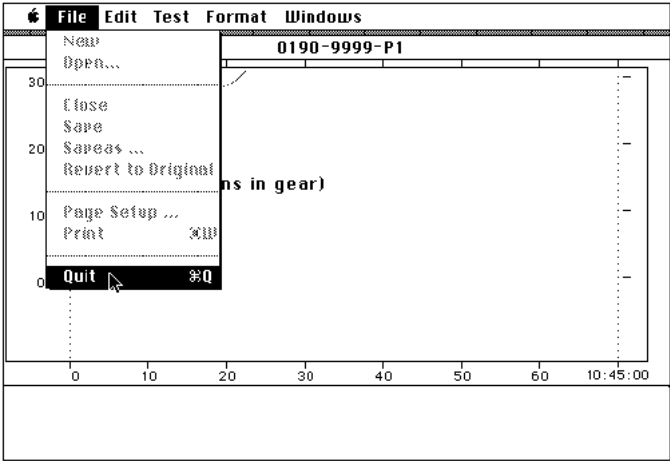

Figure 6
10.0 To quit the VDA program, position the mouse pointer on “File” (in menu bar) and press and hold down the mouse button, opening the “File” menu. Continue to hold down the mouse button, pull the mouse toward you, and position the pointer on “Quit”; then release the mouse button to select it. See Figure 6.